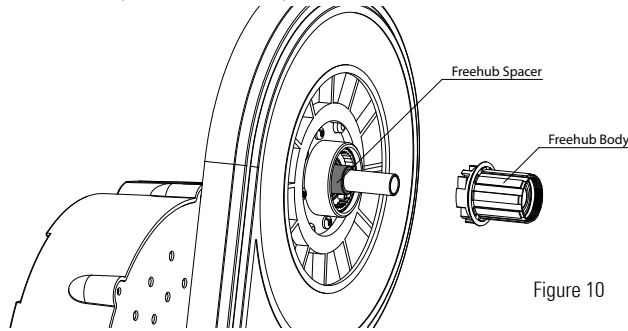

Figure 10
- With the cap removed you will now be able to slide the freehub body off the spindle by gently pulling outwards, in some cases it may require rotating the freehub body counter clockwise to disengage the pawls. See figure 10